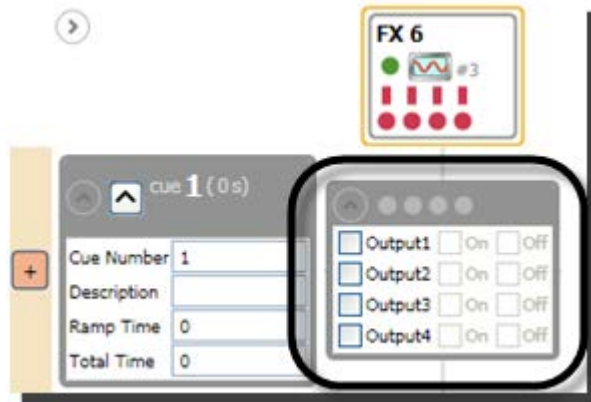

Figure 145
2. An FX movement will appear in the **Cue Grid** (Figure 145).